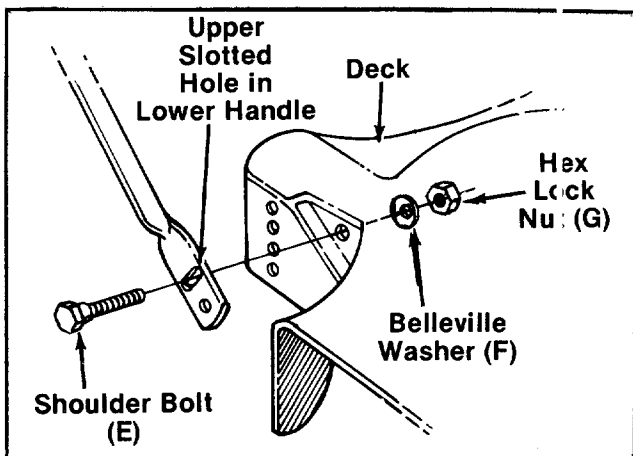

FIGURE 2.
- E (2) Shoulder Bolts 5/16-18 Thread
- F (2) Belleville Washers 5/16" I.D. x 7/8" O.D.
- G (2) Hex Lock Nuts 5/16-18 Thread
- H (1) Rope Guide Bolt
- I (1) Curved Head Carriage Bolt
- J (2) Lock Washers 5/16" I.D.
- K (2) Hex Nuts 5/16-18 Thread
- L (2) Cable Ties
3. Line up the upper slotted hole in the lower handle with the mounting hole on deck. Place shoulder bolt (E) through lower handle and deck. Place Belleville washer 5/16" I.D. (F) on the shoulder bolt, with the cupped side of the washer against the deck. Secure with hex lock nut (G). See figure 2.